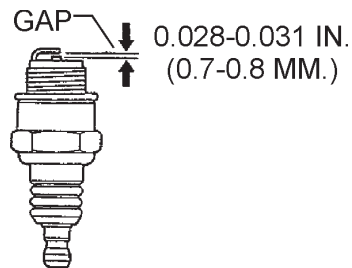

Figure 26. Spark Plug Gap
- Remove and clean the spark plug (Figure 26), then adjust the spark gap to 0.028 ~0.031 inch (0.6~0.7 mm). This unit has electronic ignition, which requires no adjustments.